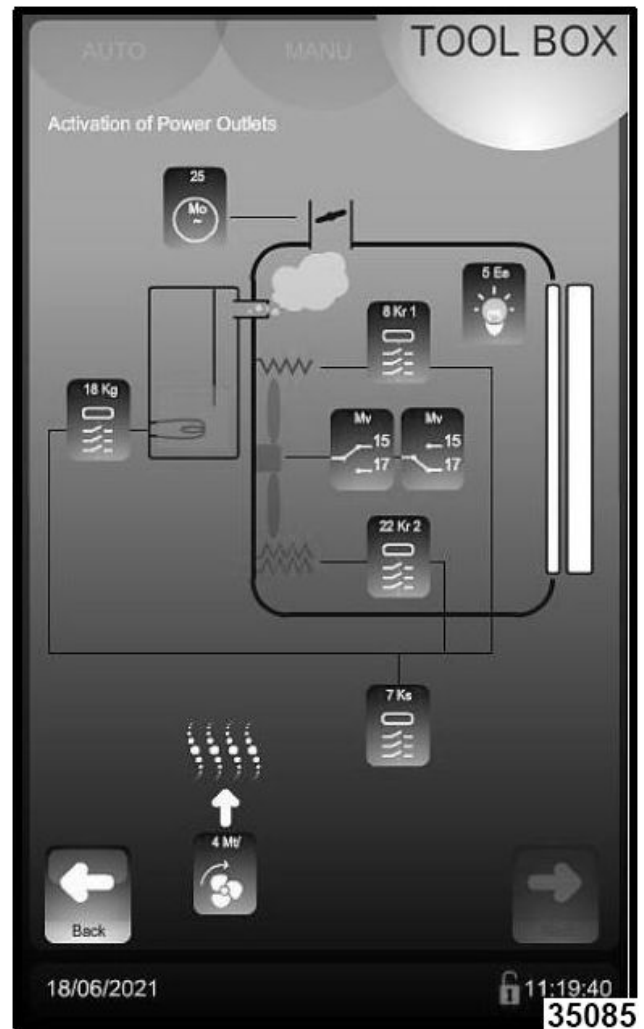

Fig. 147
3. The **Activation of Power Outlets** screen (Fig. 147) provides the following indications / controls: